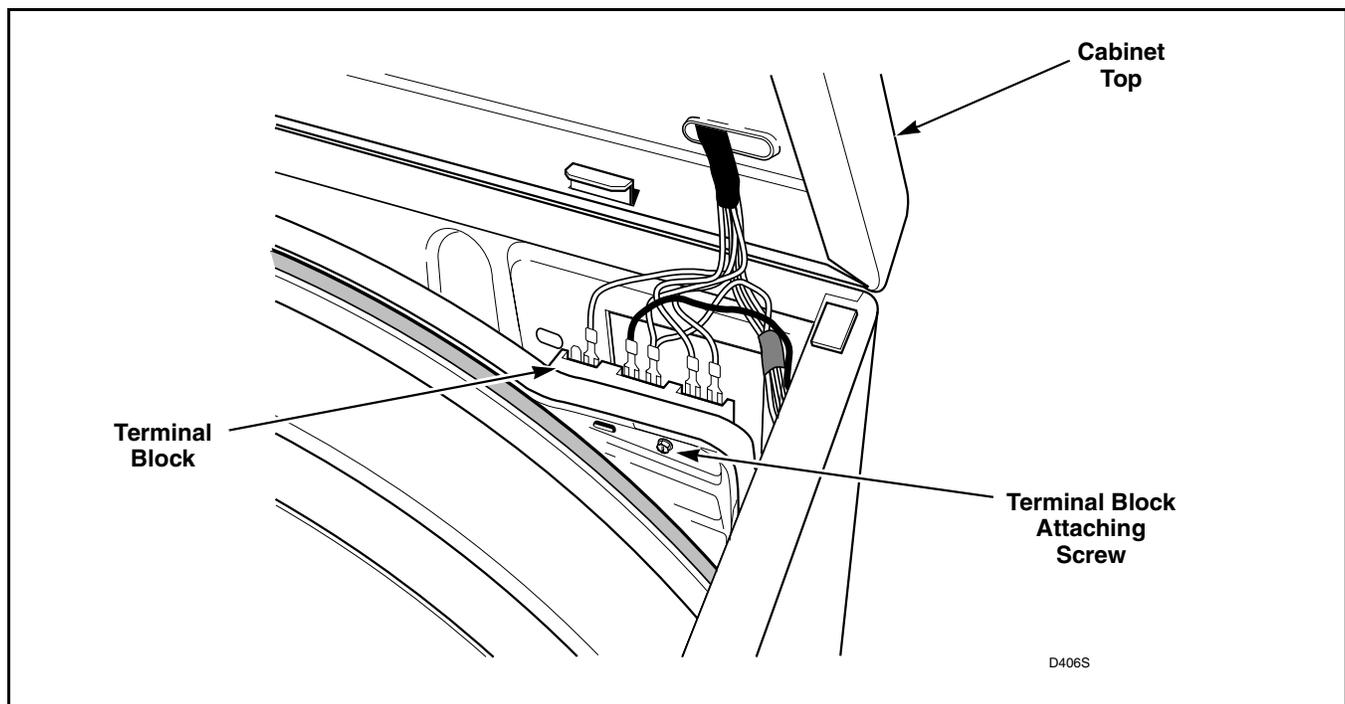

Figure 38
- (3) Remove screw holding terminal block to rear bulkhead. Refer to *Figure 38*.
- (8) Remove screw holding terminal block to rear bulkhead. Refer to *Figure 38*.